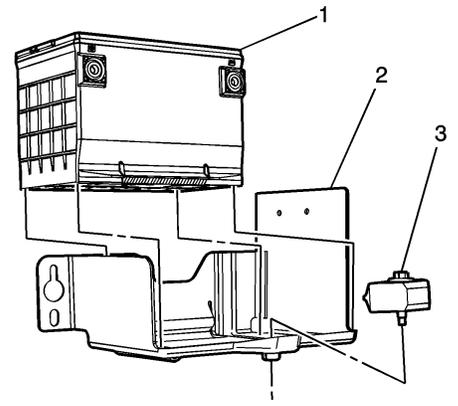

Fig. 5 Auxiliary battery removal from battery tray
12. Remove auxiliary battery retainer bolt (3) and retainer, **Fig. 5**.
1. Install auxiliary battery to battery tray, **Fig. 5**.